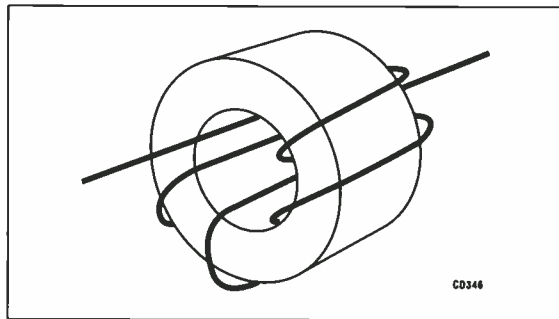

Fig 8.11. Winding RFC1
32. RFC1 is made by winding five turns of enamel-covered wire on to a small ferrite bead, keeping the turns spaced around the bead (see Fig 8.11). The choke is then fitted close to the PCB. Don't forget to remove the enamel from the wire before soldering if self-fluxing wire has not been used.